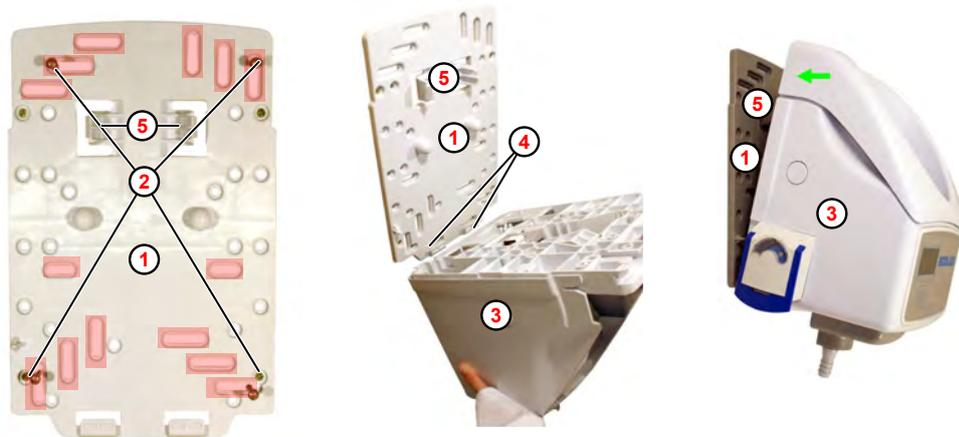

Fig. 3: Wall mounting (example with EcoPlus S)
1. ➤ Mark the desired drill holes at the mounting position using the wall bracket Fig. 3 ( ① , ) ② .
3. ➤ Fix the wall bracket ① to the wall using suitable attachment parts.
4. ➤ EcoPlus PDRX ③ Put the into the hooks ④ of the wall bracket ① from above.
5. ➤ EcoPlus PDRX ③ Pivot the onto the wall bracket ① and push it back until it audibly engages.